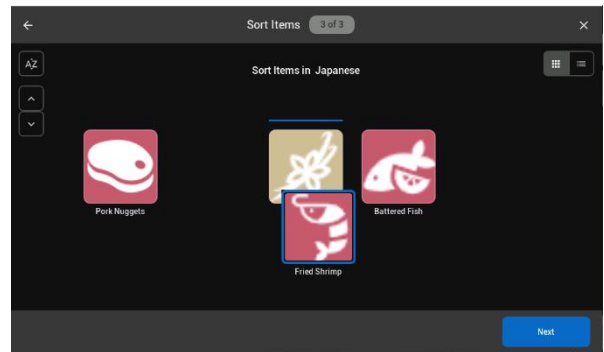

Figure 30 - Drag and Drop to Sort
- Click  to save changes **Figure 30**